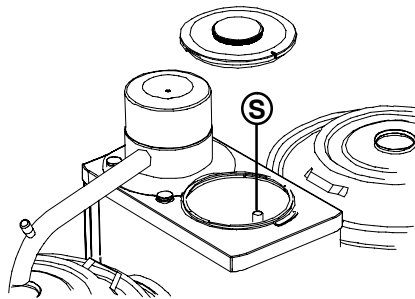

Fig. 22 Overflow pipe hot water system
- Discharge the last bit of water through the overflow pipe. For this, pull the overflow pipe (S.), that is found in the hot water boiler, up by the short hose (fig. 22).
- Discharge the last bit of water through the overflow pipe. For this pull up the overflow pipe (S., fig. 22) .
- Discharge the last bit of water through the overflow pipe. For this pull up the overflow pipe (S., fig. 22).